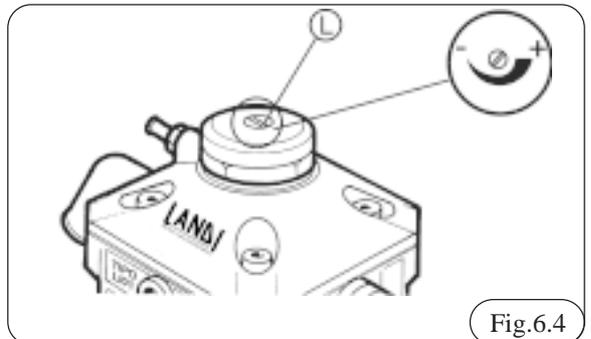

Fig.6.4
If the pressure is on "Low" or "High", turn pressure regulator-vaporizer's adjusting screw (L) as in Fig. 6.4 until the exact value is achieved and OK is displayed on the screen.